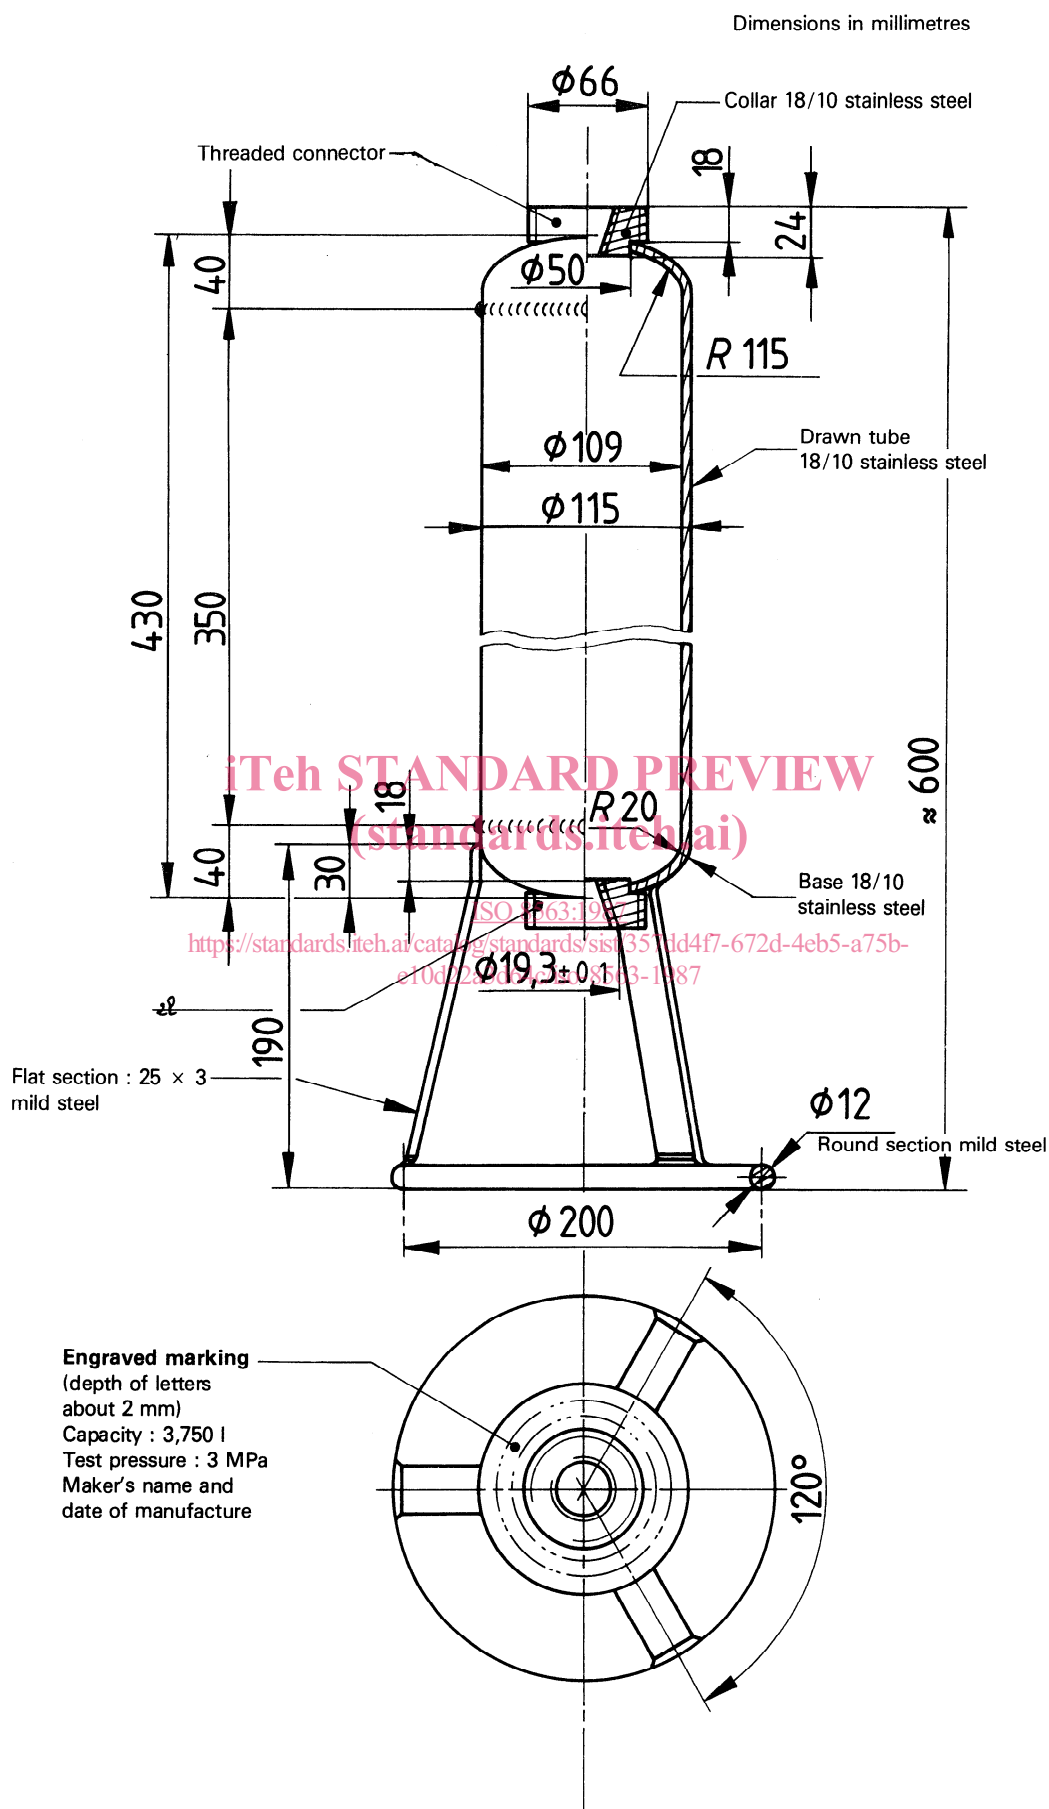

Figure 1 — Example of sampling cylinders for liquid butadiene
When even small quantities of these products are vaporized, significant quantities of extremely combustible gas are produced which can form explosive mixtures with air. When liquefied propylene and butadiene evaporate from a metallic surface, intense cooling occurs which can cause burns if the surface is touched. To aid handling of cylinders, these can be fitted with a foot (see figure 1) or handles.
2.1 Sampling cylinders (see figures 1 and 2), capable of withstanding a pressure of 3,4 MPa*, for liquid propylene, which has a vapour pressure of 1,1 MPa at 25 °C, or capable of withstanding a vapour pressure of 1,4 MPa if used only for liquid butadiene, which has a vapour pressure of 0,3 MPa at 25 °C.
Whenever possible, it is advisable to use a sampling cylinder mounted on a support (see figure 1) and fitted with a dip pipe in its upper part.